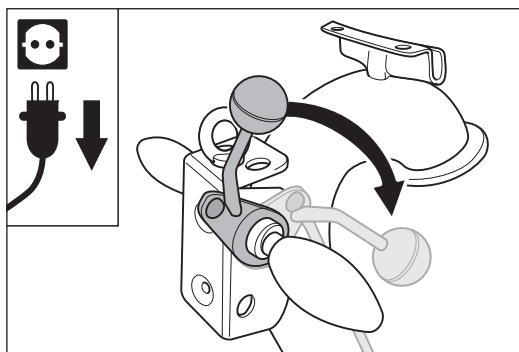

Fig. 53 Press the lowering lever at the handle downwards to lower the sanding drum onto the floor.
- 10 Press the lowering lever at the handle downwards (Fig. 53) to lower the sanding drum onto the floor.